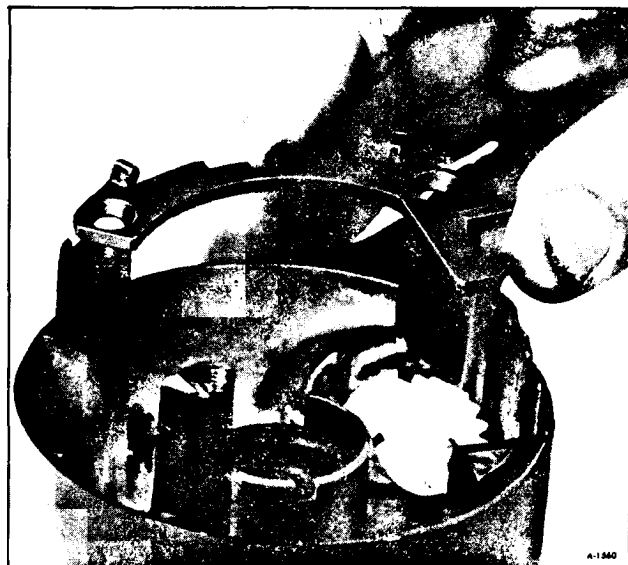

Figure 78-Removing Shift Gate
19. Remove the shift gate. (figure 78).